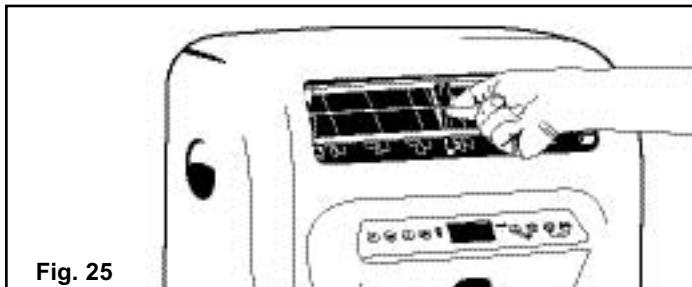

Fig. 25
- 5) To adjust “air flow” direction, (up / down only) adjust the center **Horizontal Louver Blade** and the remaining louvers will automatically adjust to the same position. See **Fig. 25**